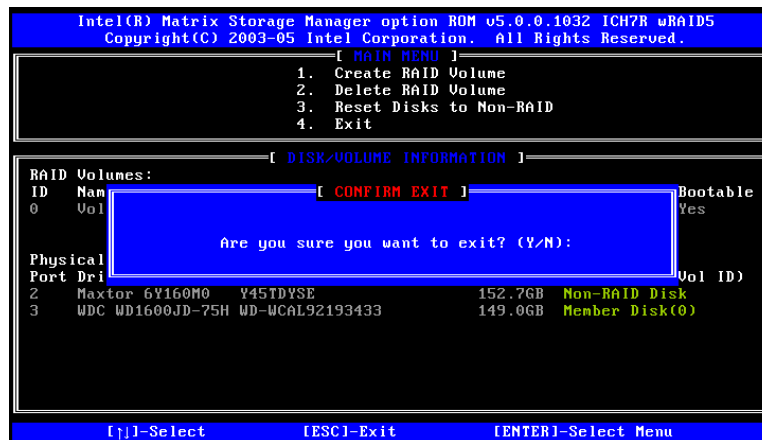

Figure E-17: Exit Verification
Step 2: Exit Verification. Press **Y** to exit the **Matrix Storage Manager**, or **N** to return to the **Main** menu. See **Figure E-17**.